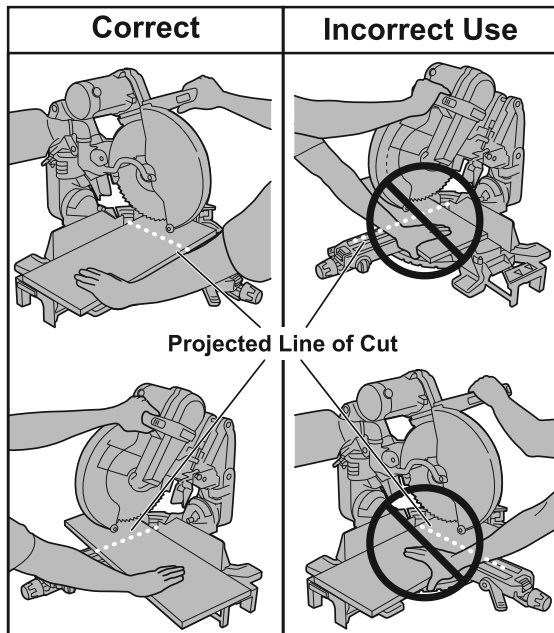

Figure 30. Hand Positions
**⚠ WARNING** Position your body and hands properly to make cutting easier and safer. Failure to follow all instructions, identified below by bullet (●) symbols, may result in serious personal injury (see Figure 30).
**DRY RUN** – It is important to know where the blade will intersect with the workpiece during cutting operations. Always perform the simulated cutting sequence with the power tool switched “OFF” to gain an understanding of the projected path of the saw blade. Mentally note where the path of the saw blade will fall and set up your work to keep your hands and arms out of the path of the spinning blade. Adjust your clamps and fences so that the smooth lower guard and cutting action is not interfered with during cutting operation (see Figure 30).